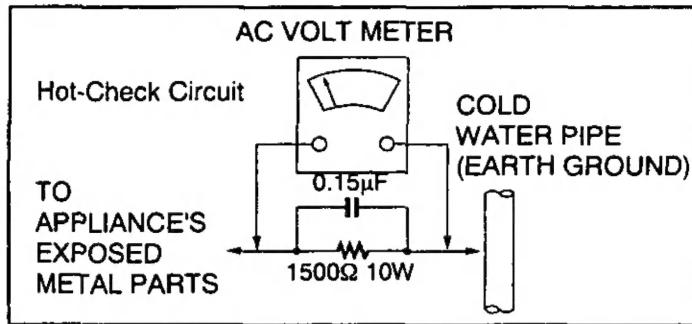

Figure 1
LEAKAGE CURRENT HOT CHECK (See Figure 1)
2. Connect a $1.5k\Omega$, $10W$ resistor, in parallel with $0.15\mu F$ capacitor, between each exposed metallic part on the set and a good earth ground such as a water pipe, as shown in Figure 1.